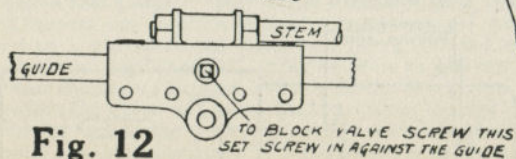

Fig. 12
**Breakdowns.** Two means are provided for blocking the gear and valve in case of a breakdown. The valve stem crosshead is provided with a set-screw so that the valve can be blocked central over the ports by clamping the valve stem crosshead to its guide. This is done in case the breakage on the gear or engine disables one side. (See Fig. 12.)